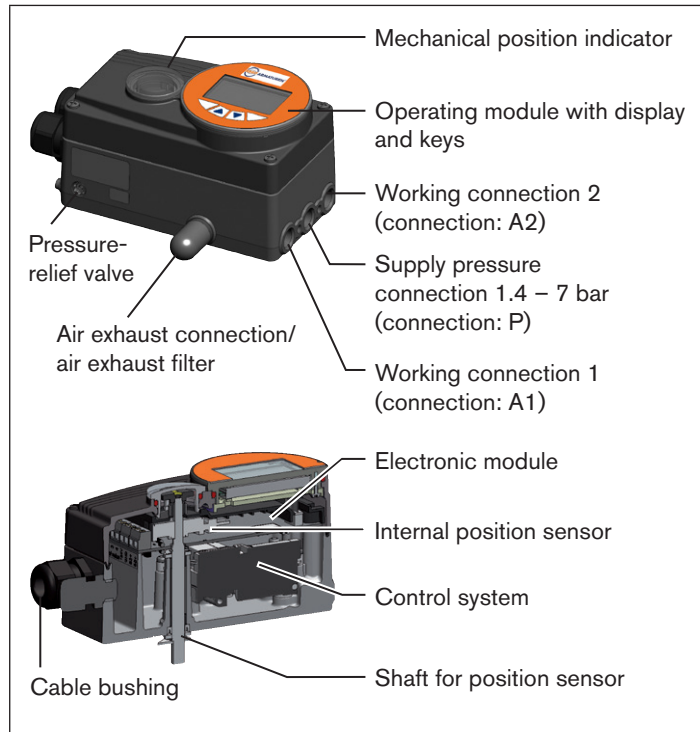

Fig. 1: Structure Type EP 501 / EP 501 C
* If the device is used under IP 67 conditions, the ventilation must be removed and the exhaust air conducted into the dry area (see „Fig. 1“)